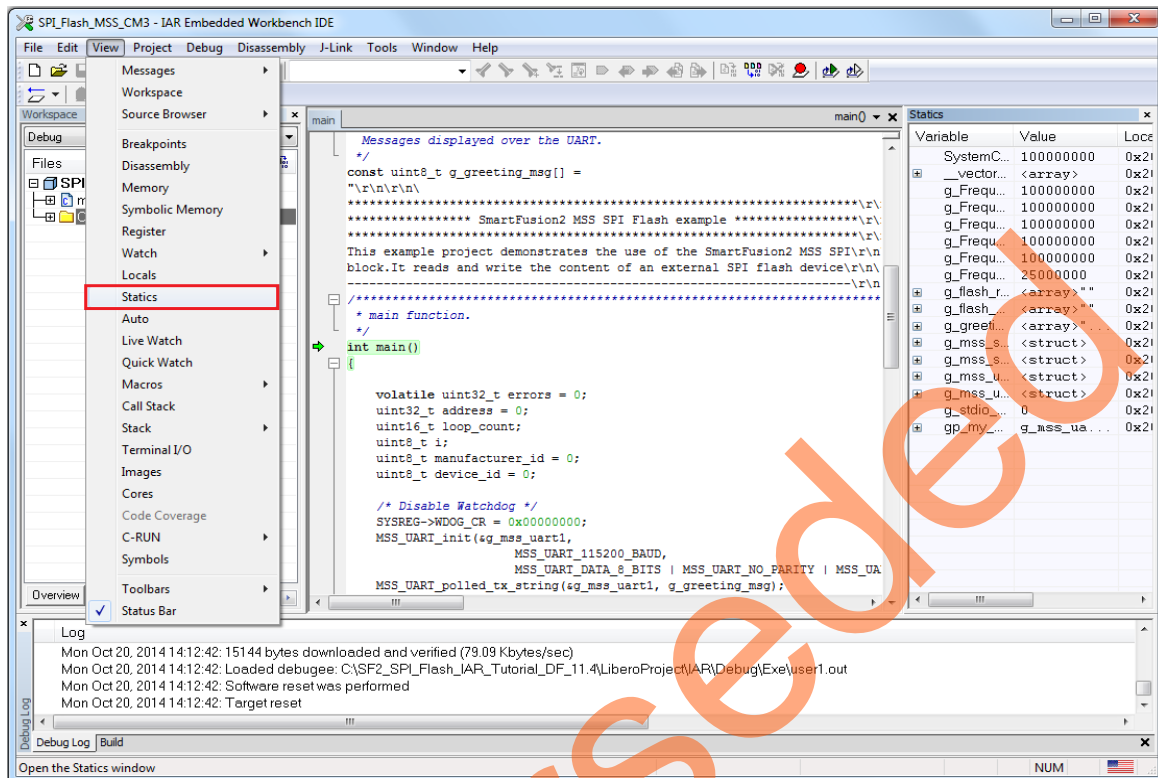

Figure 45 • Values of the Source Code Variables
- Click **View > Statics** to view the values of variables in the source code as shown in Figure 45.